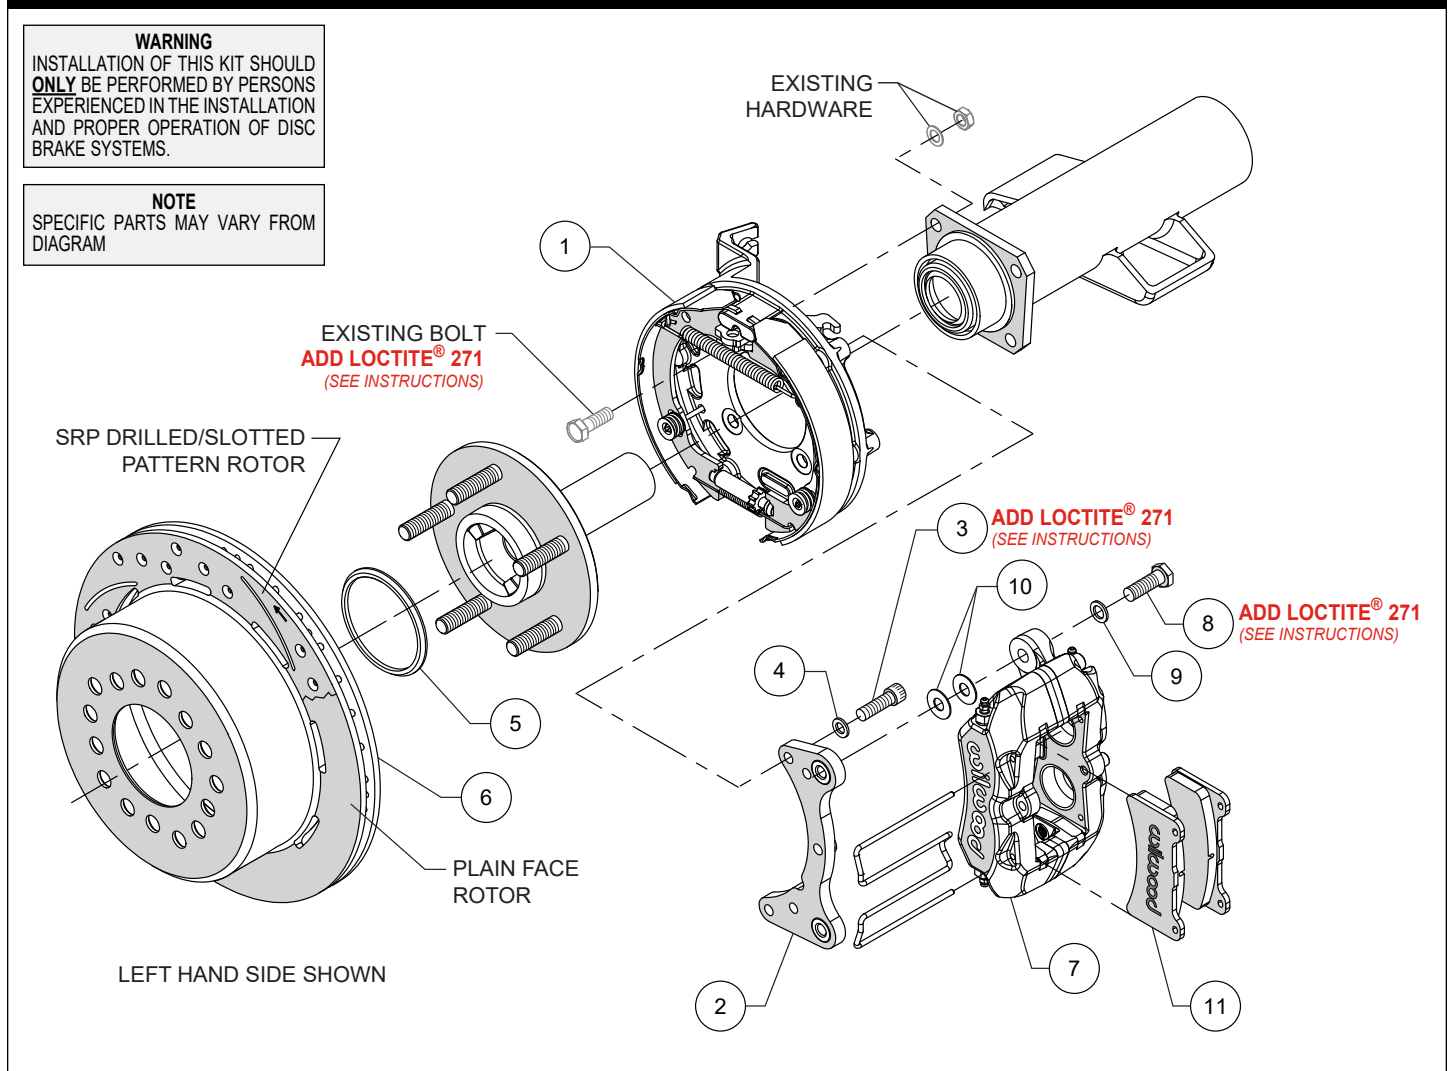
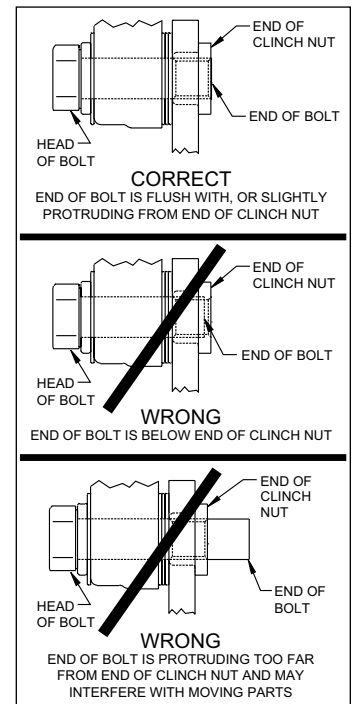

Figure 1. Typical Installation Configuration
Figure 4. Clinch Nut Engagement Diagram
NOTE: Numbers in parenthesis refer to the parts list and Figure 1 on the preceding pages.
CAUTION: All mounting bolts must fully engage clinch nuts. Be sure to check that all bolts are either flush or protruding through flanged side of clinch nut after shimming, Figure 4.
- Orient the parking brake assembly (1), as shown in Figure 1, and mount to the axle housing flange using the Original Equipment Manufacturer (OEM) bolts and nuts, Figure 1 and Photo 1. Ensure that the parking brake assembly backing plate fits flush against the axle housing flange. Apply red *Loctite*® 271 to the OEM bolt threads and torque to OEM specifications.
- Install the caliper mounting bracket (2) to the parking brake assembly (1) using bolts (3) and washers (4) as shown in Figure 1 and Photo 2. Apply red *Loctite*® 271 to the bolt threads and torque to 25 ft-lbs.
- Slide the rotor registration adapter (5) onto the axle register on the axle flange with the smaller O.D. facing toward the rotor/hat (6), Photo 3.
•Align the correct hole pattern in the rotor/hat with the stud pattern on the axle flange and slide into place, Figure 1. **NOTE:** The rotor/hat must fit flush against the axle flange or excessive rotor run out may result. Install three lug nuts (finger tight) to keep the rotor/hat assembly in place while continuing with the installation.
•**NOTE:** Please reference the caution statement at the beginning of the assembly instructions. Mount the caliper (7) onto the caliper mounting bracket (2) using bolts (8) and washers (9), as shown in Figure 1. Initially place two .035" thick shims (10) on each bolt between the caliper and the bracket, Photo 4. Temporarily tighten the mounting bolts and view the rotor (6) through the top opening of the caliper. The rotor should be centered in the caliper, Photo 5. If not, adjust by adding or subtracting shims (10) between the bracket and the caliper. Always use the same amount of shims on each of the two mounting bolts. **NOTE:** The end of each bolt must be flush with or slightly protruding from the head of the clinch nut, as shown in Figure 4. If necessary place spare shims between washer (9) and caliper mounting ear to achieve the proper clinch nut engagement. Once the caliper alignment and clinch nut engagement are correct, remove the bolts (8) one at a time, apply red *Loctite*® 271 to bolt threads, and torque to 40 ft-lb.
•Install the disc brake pads (11) into the caliper, with the friction material facing the rotor (6), and secure in place using the pad clip retainer, Photo 6.
•**NOTE:** Clevis and cable kits which attach to the parking brake assembly are not included in the Wilwood parking brake kit. Wilwood offers a generic style parking brake cable kit, P/N 330-9371 for this application which can be ordered separately from your local Wilwood dealer or by calling Wilwood customer service at (805) 388-1188.
•Before final installation of the wheel, install three lug nuts, remove the rubber grommet in the parking brake assembly (1) and adjust the parking brake shoes outward (using a drum shoe adjustment tool available at your local auto parts store) while spinning the rotor/hat until a slight drag is felt against the hat/drum. Replace the rubber grommet when finished.